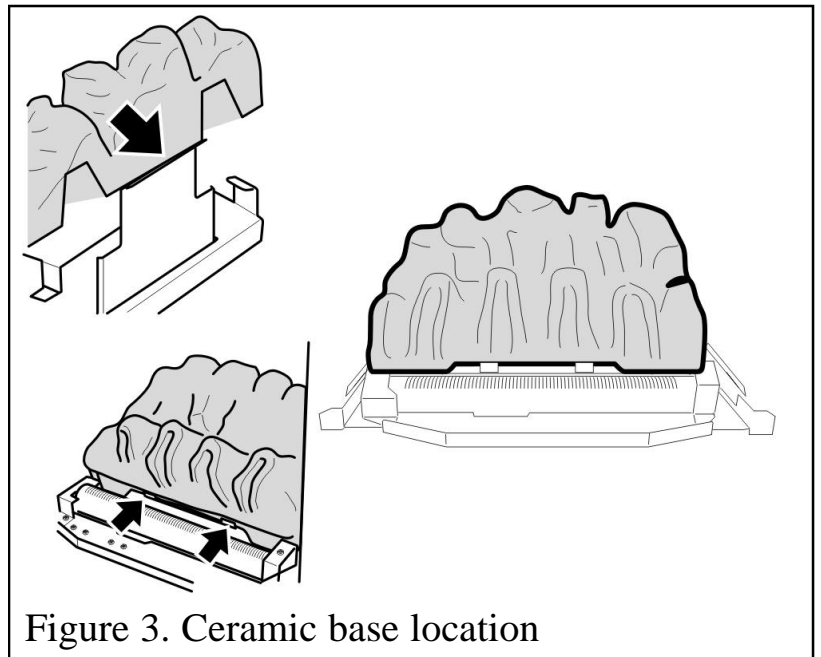

Figure 3. Ceramic base location
1. Place the ceramic base coal in the burner compartment. The bottom rear face of the coal should rest on the angled ledge at the back of the burner tray. The bottom front recess of the coal base should locate against the tags at the front of the ceramic support (See figure 3).